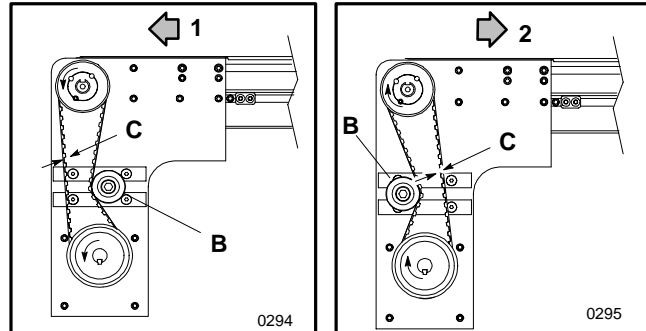
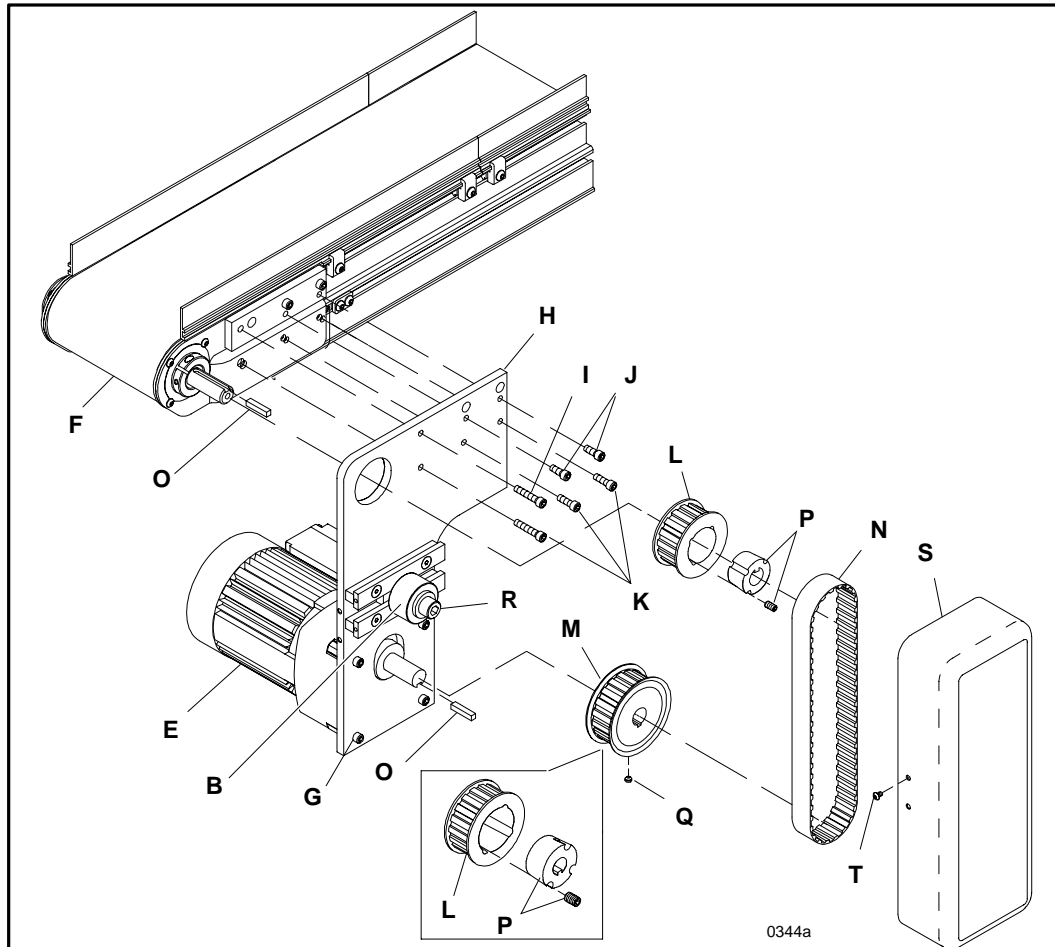

Figure 8: Bottom Drive Timing Belt Adjustment Detail
Figure 9: Bottom Drive Component Assembly Detail
1. Refer to Figure 9 and attach the gearmotor (**E**) and the motor mounting plate (**H**) to the conveyor (**F**) using one M6 x 30 mm socket head cap screw (**I**) in the top mounting hole of the mounting plate, two M6 x 16 mm socket head cap screws (**J**) in middle holes and three M6-1.0 x 20 mm socket head cap screws (**K**) in bottom holes.
2. Assemble the drive and driven pulleys (**M** and/or **L**) and timing belt (**N**). Place a square key (**O** of Figure 9) into the keyway on the gearmotor and conveyor shafts. Install the pulleys so that the timing belt is centered on the belt tensioning roller assembly (**B** of Figures 8 & 9) and the pulleys are in line with each other. Tighten the pulley set screws (**Q** of Figure 9) or Taper Lock[®] bushing screws
(**P**), which fasten the pulleys to the shafts. Determine which direction the conveyor belt is traveling and position the tensioning roller assembly on slack side of the timing belt (Figure 8).
3. Adjust timing belt tension by loosening the M12 x 25 mm socket head cap screw (**R** of Figure 9) and sliding the belt tensioning roller assembly against the belt. Tension should be measured at mid-point (**C** of Figure 8) on the tension side of the timing belt. As a starting point for the tensioning process, there should be a 1/8" (3 mm) deflection with 6 lb (3kg or 26 N) of force.
5. Attach the bottom drive cover (**S** of Figure 9) using four M4 x 10 mm button head cap screws (**T**).